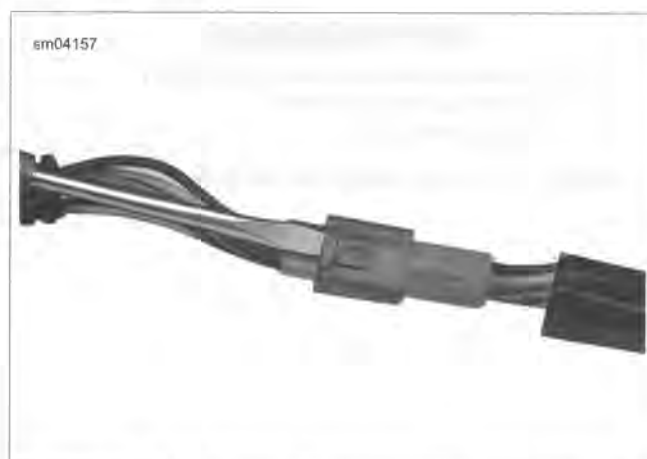

Figure 4-25. Gently Insert Screwdriver to Disconnect Twist Grip Sensor Connector
9. See Figure 4-25. Gently insert a small flat blade screwdriver between pin and socket housings and separate housings. Do not pivot or rotate screwdriver after insertion or damage to pin housing may occur.